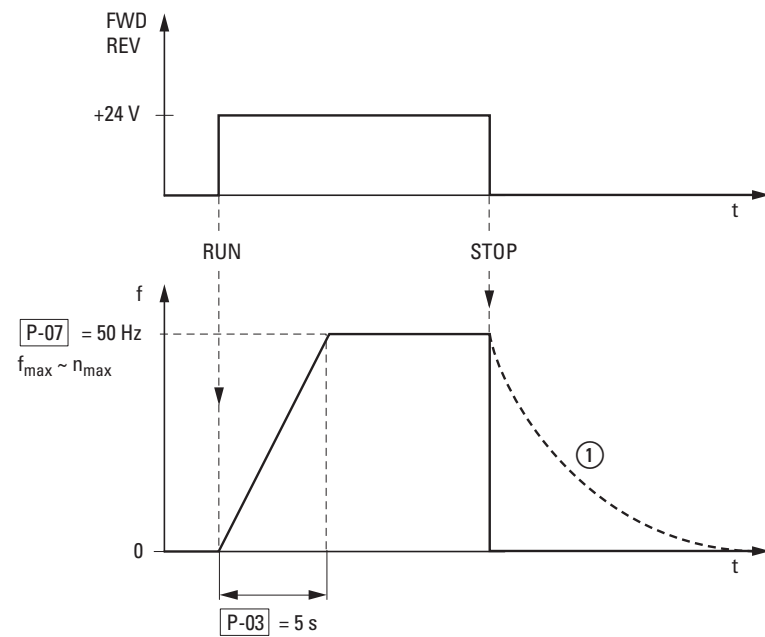

Figure 55: Start-Stop command with maximum setpoint value voltage, acceleration ramp 5 s
Figure55 on Page 88 shows a good example of the process, if the release signal (FWD/REV) is switched on and the maximum setpoint voltage (+10 V) is applied. The speed of the motor follows the output frequency depending on the load and moment of inertia (slip), from zero to n_{max} .
If the release signal (FWD, REV) is switched off during operation, the inverter is blocked immediately (STOP). The motor comes to an uncontrolled stop (see ① in Figure55).